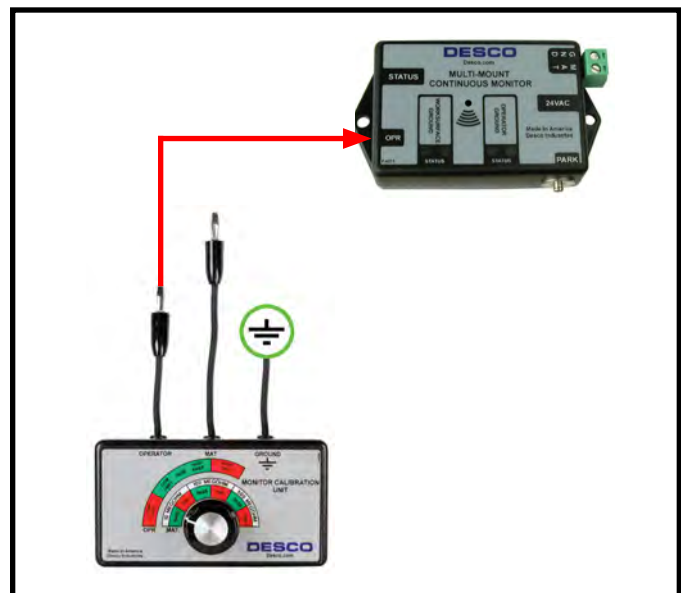

Figure 8. Connecting the OPERATOR test lead from the Monitor Calibration Unit to the Multi-Mount Continuous Monitor
**Step 2:** Insert the Calibration Unit’s banana plug labeled “OPERATOR” into the jack labeled “OPR” on the Multi-Mount Continuous Monitor (see Figure 8).